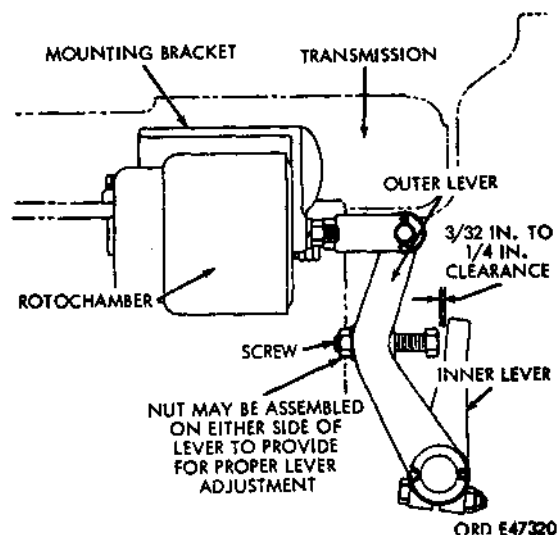

Figure 531. Roto chamber adjustment diagram
352. Rotor Chamber Adjustment (Fig. 531)
c. Turn adjusting screw until clearance between adjusting-screw head and upper end of inner lever is between three thirty-seconds and one-fourth inch. Figure 531 illustrates point of measurement between adjusting-screw head and inner lever.